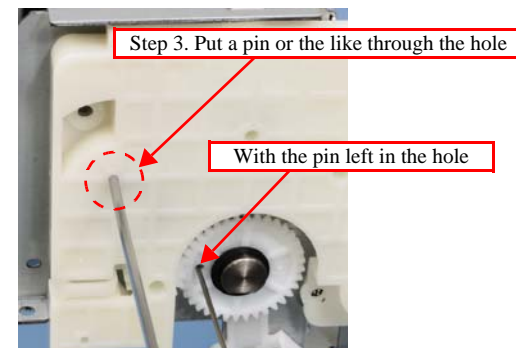

Figure 4-78. Installing the APG Unit (2)
4. With the pins left inserted in the holes as shown in Fig. 4-78, align and insert the dowels (x6) of the APG Unit to the positioning holes (x6) of the Main Frame.